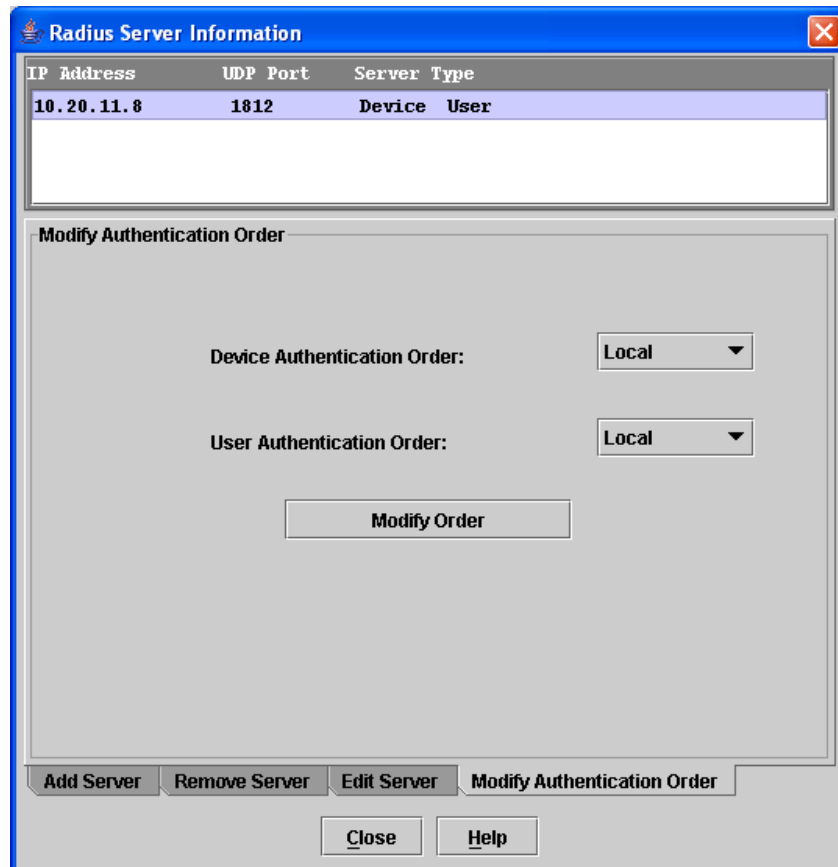

Figure 2-13. Modify Authentication Order - RADIUS Server Information
2. In the Radius Server Information window, shown in Figure 2-13, click the **Modify Authentication Order** tab.